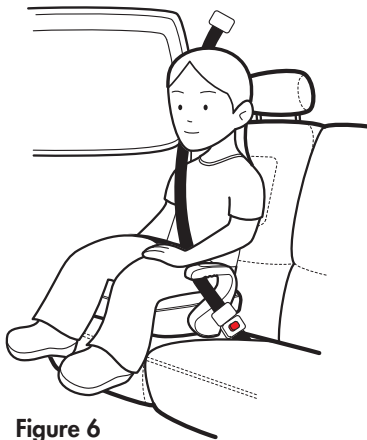

Figure 6
- Use only the vehicle's lap and shoulder belt system when restraining the child in this booster seat, as shown in **Figure 6**.
- Use **ONLY** the vehicle's lap and shoulder belt system when restraining the child in this booster seat, as shown in **Figure 6**.